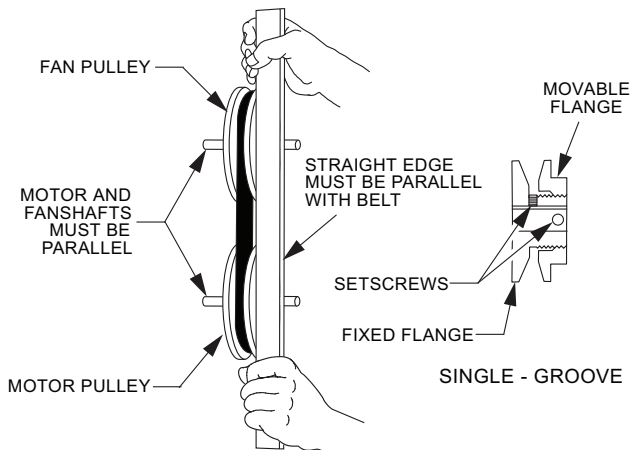

Fig. 10 — Supply-Fan Pulley Adjustment
The motor pulley is an adjustable-pitch type that allows a servicer to implement changes in the fan wheel speed to match as-installed ductwork systems. The pulley consists of a fixed flange side that faces the motor (secured to the motor shaft) and a movable flange side that can be rotated around the fixed flange side that increases or reduces the pitch diameter of this driver pulley. (See Fig. 10.)
3. Loosen movable pulley flange setscrew. (See Fig. 10.)
24. Align the motor pulley and blower wheel pulley using a straight edge. See Fig. 10.